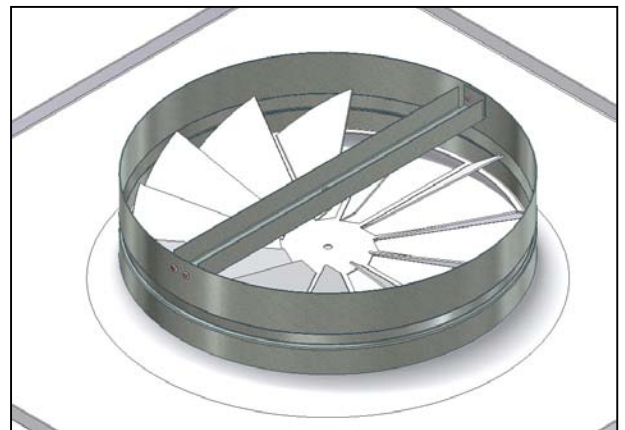

Figure 9: Position Duct Collar on Stack
2. Orientate the Duct Collar so that its mounting bar 'U' channel is open to the top, then place the Collar over the rear stack of the Diffuser. Take care to ensure that the stack is positively located within the Collar (figure 9).